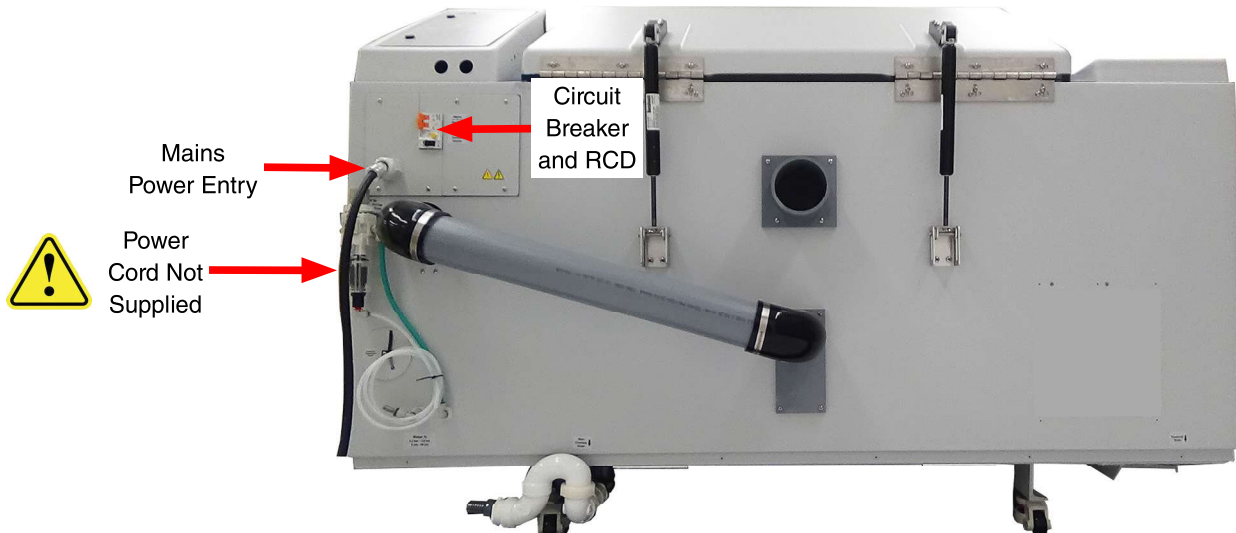

Figure 6.3c: Mains power entry and circuit breaker locations.
- On the rear of the Q-FOG is a Main Power Circuit Breaker and a Residual Current Device (RCD), (Figure 6.3c).